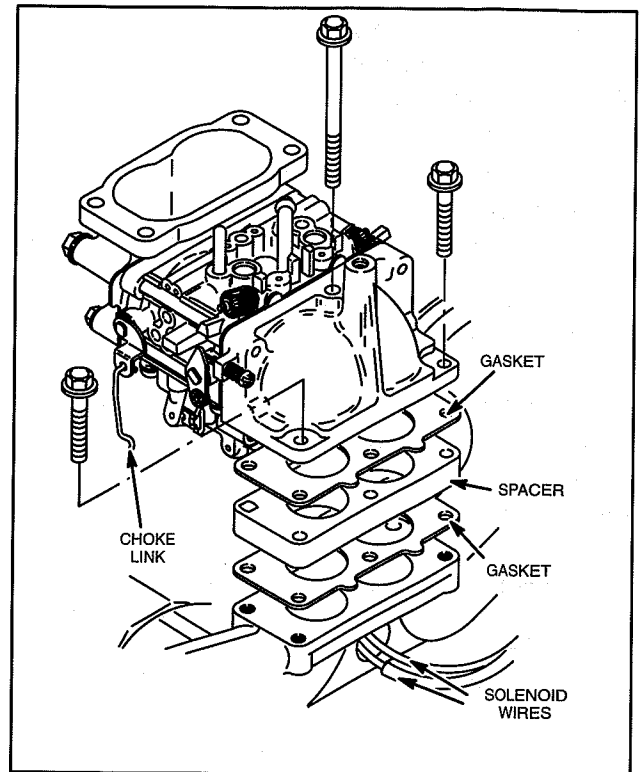

Fig. 124 - Assemble Carburetor To Intake Elbow
4. Assemble carburetor, gasket, spacer and gasket to intake manifold, Fig. 124.